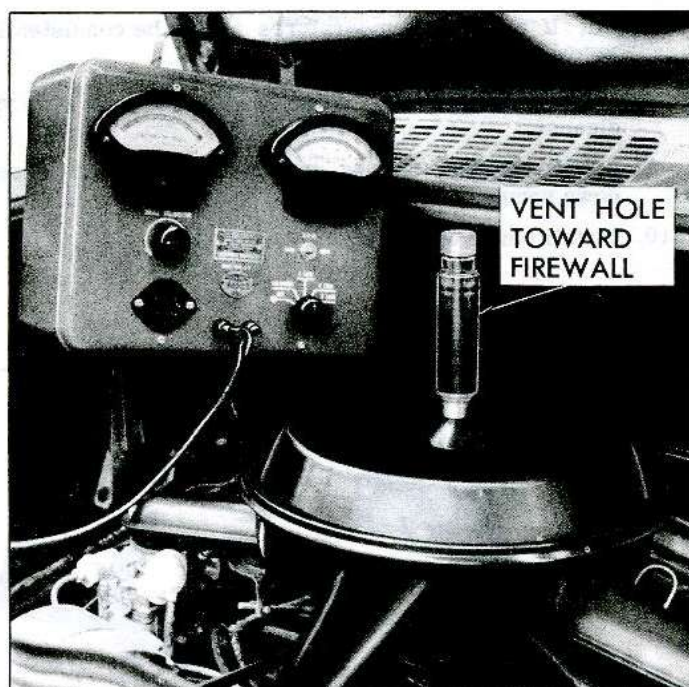

Fig. 64—Tool Installed on Air Cleaner
1. Remove the wing nut and washer (if used) from the air cleaner cover stud, then screw Tool J-7825 onto the stud until it seals tightly against the air cleaner cover. Rotate the entire gauge so that the scale can be read from the rear of the car (fig. 64).
2. Connect a tachometer and place so that it may be read simultaneously with Tool J-7825 (fig. 64).